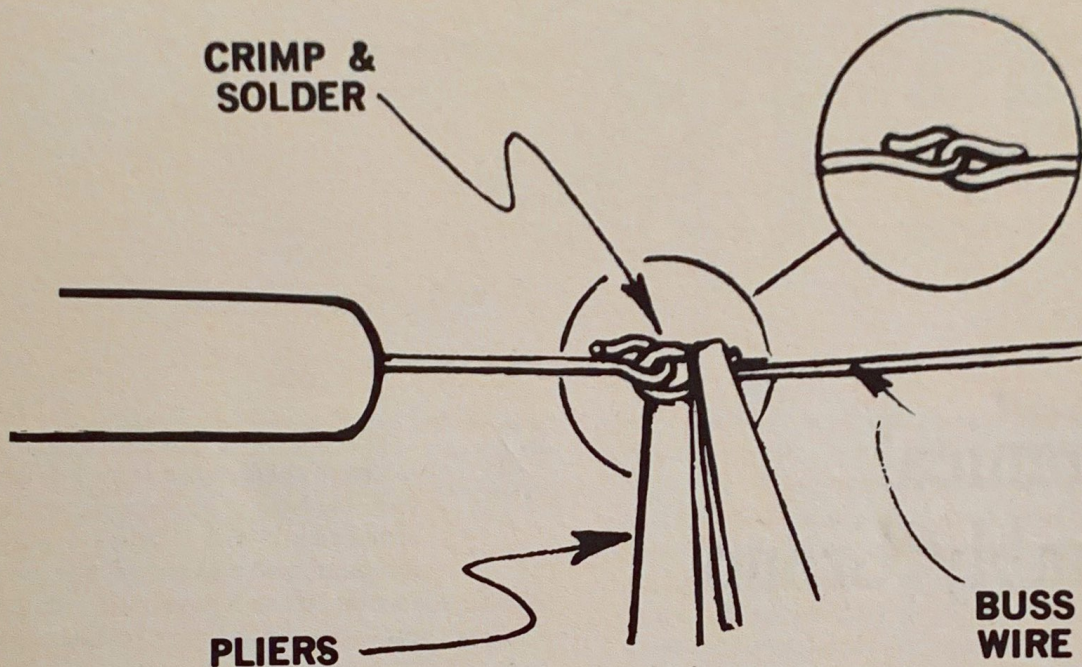

FIGURE 3
1. Cutting a wire or lead too short — If you cut the wire from one of the components too short you can easily correct it by taking a small piece of uninsulated wire (buss wire) and splicing it on as shown in Fig. 3.